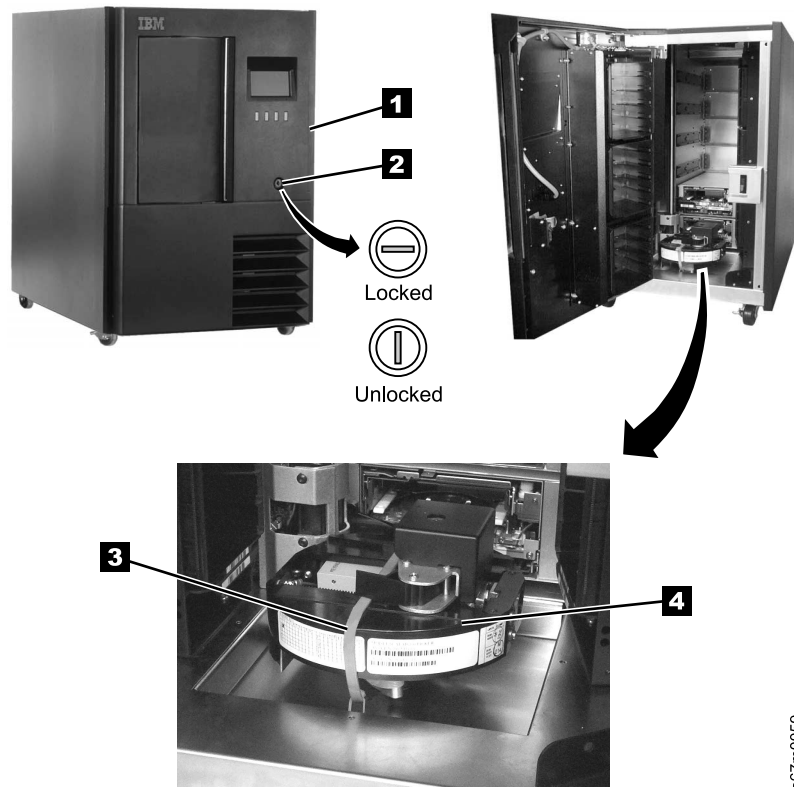

Figure 18. Removing the band that secures the picker
1. Open the front door (see **1** in Figure 18) by inserting the key into the keylock **2** and turning it to the right.